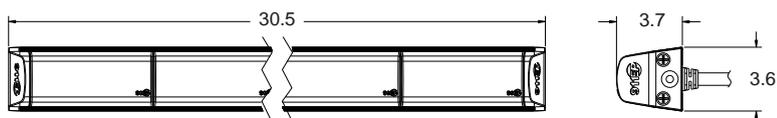

Figure 1. Dimensions
2. CARACTÉRISTIQUES PHYSIQUES (Figure 1.)